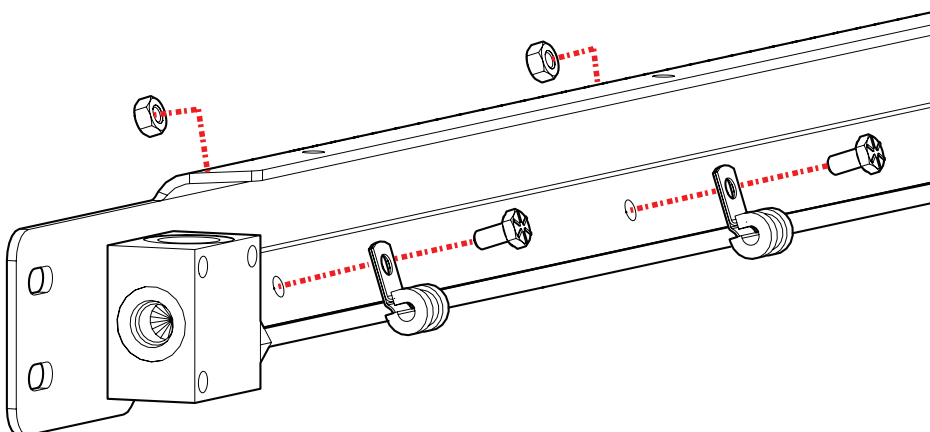

Figure 23: Install the bolts, nuts, and clamps that secure the trigger line to the rail.
3. Install the bolt, nut, and loom clamp that secures the trigger line to the rail (Figure 23). Install all original bolts, nuts, and clamps.